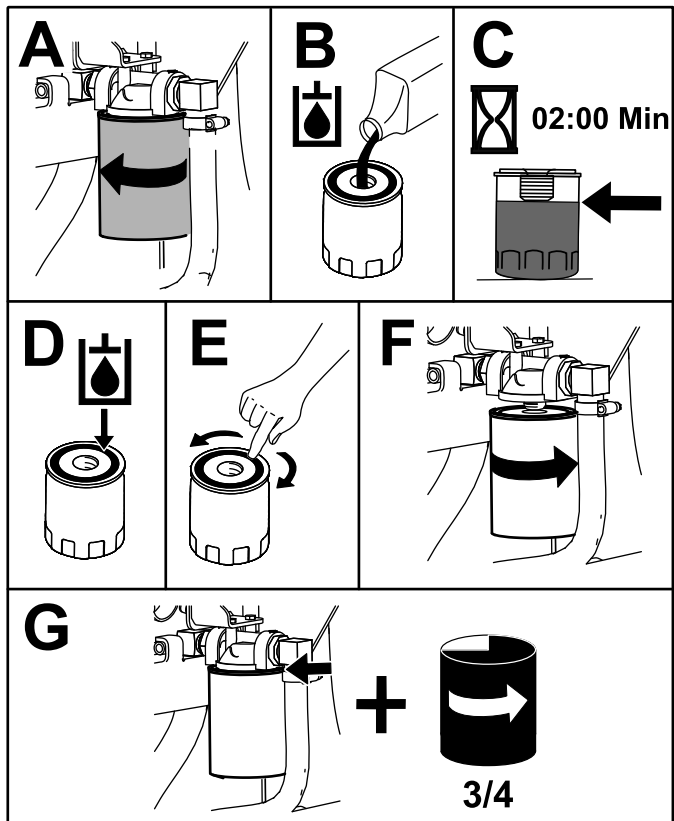

Figure 66
4. Place a drain pan under the filter and replace the filter (Figure 66).